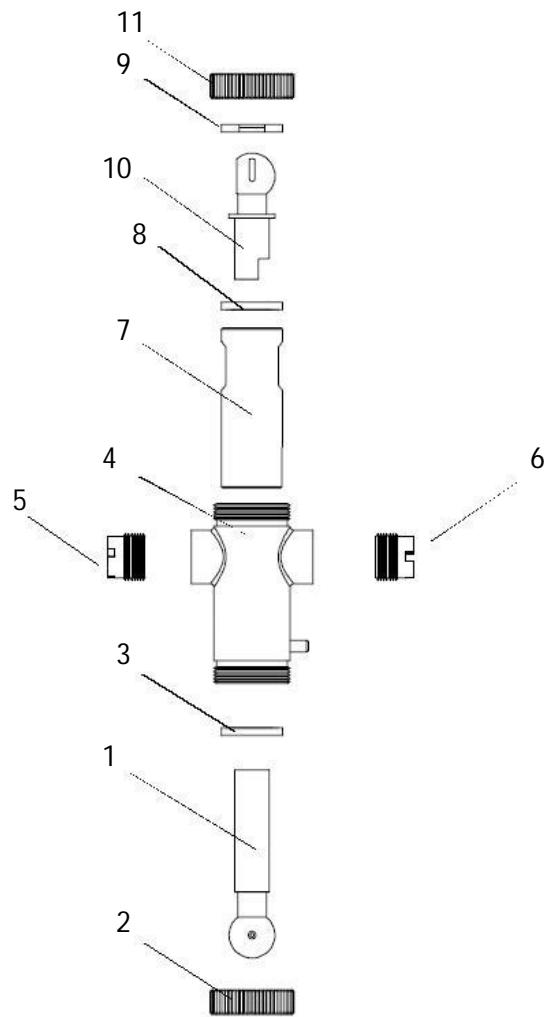

Figure 7.2 Lip/Face Seal LF Multiplex Pump Module Components Assembly/Disassembly
**7.5.2 Assembly/Disassembly Procedures (Figure 7.2)**
*Position the upper coupler as shown in figure 7.2, A.*
1. Position valve bearing ball (2) in coupling assembly (1) making sure the flat side faces up and the slots in valve bearing ball (2) align with locator pins in coupling assembly (1).
2. Slide valve bearing ball (2) into coupling (1) until it is fully seated.
3. Rotate Pump Module (4) 90° making sure the alignment pin and rear port (3) fit into the holes on the rear panel.
4. Push piston bearing ball (7) into the slide assembly socket.
5. Push slide door (6) up to secure piston ball in place.
**7.5.2.2 Piston/Cylinder/Valve (Figure 7.2 Items 1, 7 and 10)****NOTE**
### 7.5.2.3 Case (Figure 7.2 Item 4)
#### 7.5.2.4 End Caps (Figure 7.2 Items 2, 11)
#### 7.5.2.5 Washer (Figure 7.2 Items 9)
#### 7.5.2.6 Lip/Face Seals (Figure 7.2 Items 3 and 8)